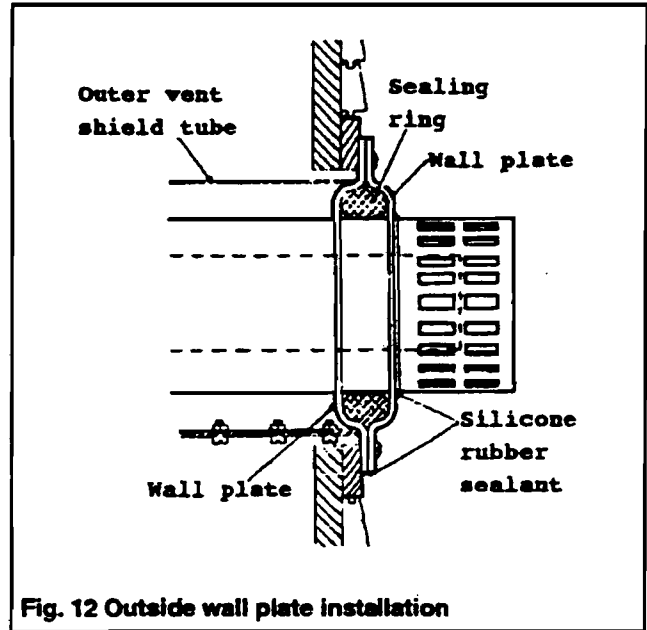

Fig. 12 Outside wall plate installation
- 6.9 Place a wall plate over the outside wall end of the terminal with the dished projection facing inside. Push the plate up to the wall so that the dished projection locates inside the vent shield tube (see figure 12). Mark the wall plate fixing holes on the wall. Remove the plate.
- 6.13 Fit the remaining wall plate over the vent unit with the dished projection facing outwards. Line up the screw holes and start the fixing screws. Apply a clear silicone rubber sealant under the edges of the wall plates and tighten the screws. Apply a bead of sealant round the vent tube where it exits the wall plate (see figure 12).